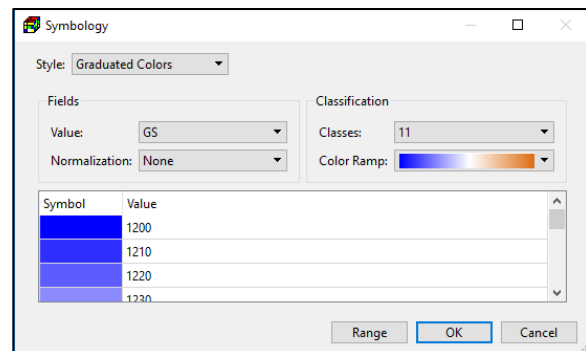

Figure 9. The Symbology dialog box - Graduated Colors
3. **Graduated Colors** (Figure 9): In this style, the quantitative values of a value field are grouped into classes, and each class is identified by a color. A choropleth map can also be displayed by mapping quantitative values, such as concentration, to a color ramp. For example, darker shades of red could be used to represent higher concentration values and lighter shades could be used to represent lower concentration values. The following describes the options available with the Graduated Colors style: